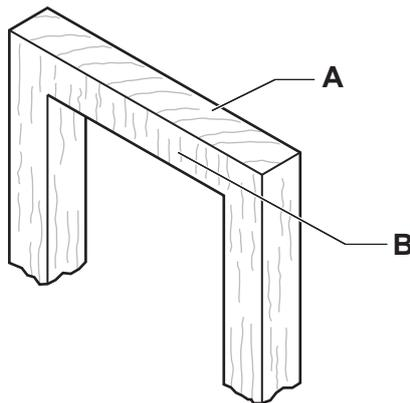

Fig. 2.1
- 2 Fig. 2.1 shows a shaped piece of hardwood.
State from the list below the correct name for the types of grain labelled at **A** and **B** in Fig. 2.1.